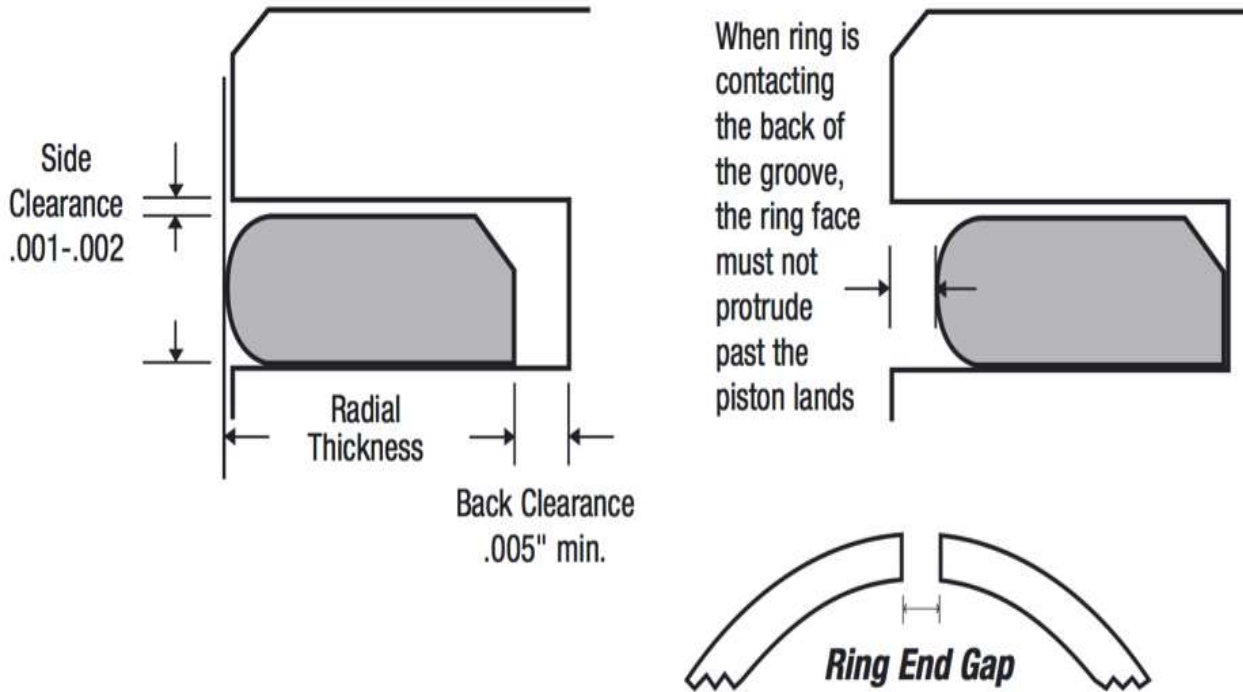

Figure 6
- Install the upper rail before installing the bottom rail. If you attempt to install the lower rail first the assembly will become tangled as the rail passes over the expander gap. Install the upper rail gap about 90° counterclockwise from the expander gap. Install the lower rail with the gap about 90° clockwise from the expander gap. The reason that rail gaps must be separate from each other and the expander gap is to avoid overstressing of the expander. If the two rails are fitted with their gaps in line the friction effect of the rail inners against the expander rail support pads will cause most of the relative movement to be concentrated over a small number of humps. This will cause the most highly stressed hump to break. Also, the expander will either overlap or become tangled if its gap is assembled in line with either or both of the rail gaps. See figure 6.
- Back clearance can best be measured by pushing the ring into the piston ring groove until it bottoms against the root of the groove. The amount that the face of the ring is below the ring lands is the ring back clearance. It should not protrude beyond the lands when the ring is bottomed in the groove. See figure 6.